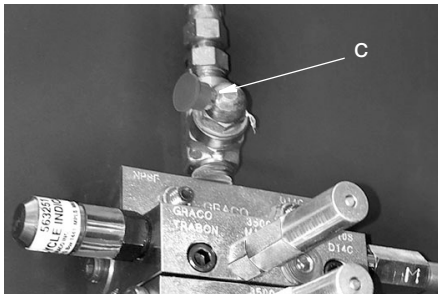

FIG. 101
2. Connect a pneumatically powered grease gun to the grease zerk (c) on the master valve to the pump (FIG. 101). Have a colleague stand next to the pump to identify when the main feed line from the pump is full and the air is purged from the line. Wrench tighten the fitting on the G3 pump, securely.
3. Continue to fill the master valve and the grease lines to the secondary valves (FIG. 101). Have a colleague identify when the lines are filled and air is purged from the lines. Wrench tighten the inlet hose fittings on the secondary valves, securely.